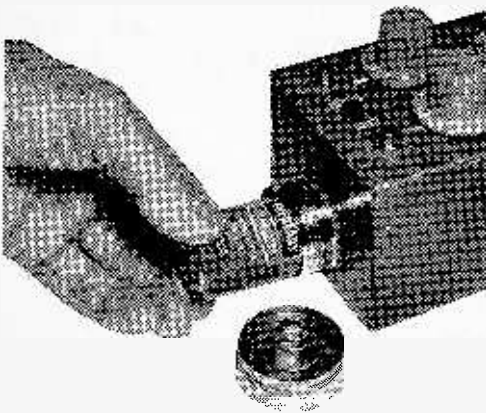

Fig. 7. Changing cells is as easy as replacing a couple in flashlight. Unscrew cap, shake out the old cells and drop in new ones and replace cap.
**Battery Holder.** Figs. 4, 5 and 6 show how to make the battery holder from a metal-case flashlight which holds two D-size cells. The flashlight must have a removable cap on the end opposite the lamp and reflector. Do not use a flashlight with an aluminum case—aluminum is difficult to solder to. Fig. 7 shows how easy it is to change batteries.